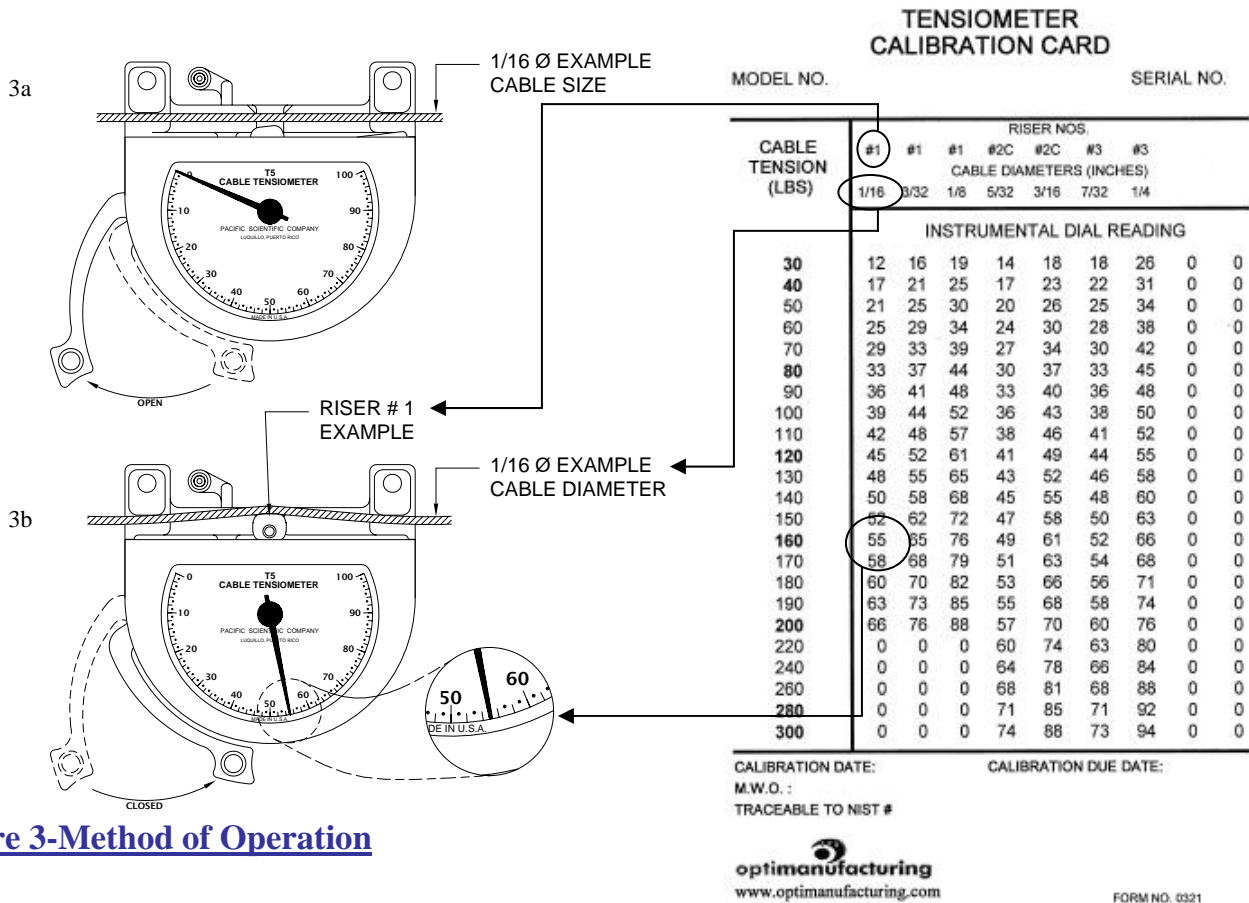

Figure 3-Method of Operation
3-1. **PREPARATION FOR USE-** *It is vital to have the correct riser mounted on the instrument.* Refer to Table 4 to determine the correct riser required for the size cable to be tested. Selection of the wrong riser will give incorrect readings and may damage the Tensiometer. This information is given on the calibration card for each model (See Figure 3). *Each calibration card is prepared for a specific Tensiometer.* The serial number, noted near the lower left corner of the calibration card, must match the serial number noted on the nameplate of the Tensiometer. The use of non-matched sets will give incorrect readings and render the Tensiometer out of calibration. The *brake rod* must also be checked to see that it is in the **unlocked** position before clamping the instrument on the cable.
- f. Convert the dial reading to tension in pounds by referring to the calibration chart. A typical conversion is shown in Figure 3, where a dial reading of 55 points with the instrument testing a 1/16 inch cable and Riser #1 is converted to 150 pounds tension by referring to the calibration chart. (See Figure 3).